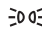

Fig. 101 Instrument panel: light panel.
- Switch on the ignition and select mode **AUTO** on the headlight control >>> Fig. 101.